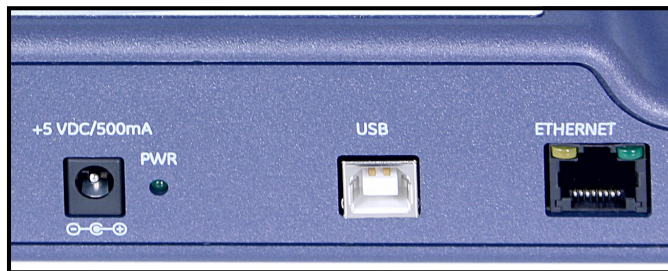

Figure 5: Base Station Connections
Starting the Base Station requires plugging in the power supply and establishing USB or Ethernet connections. The rear of the Base Station appears similar to Figure 5 below.
- To power the Base Station, insert the round barrel connector into the power input jack of the Base Station (the input at the left shown in Figure 5 on the previous page). Attach the power supply to the power cord. Then insert the power cord into a standard 100-240 VAC outlet. A green light next to the power outlet on the Base Station indicates that the station is powered up.
- To establish a USB connection, plug one end of the USB cable into the USB outlet in the center of the rear shown in Figure 5 on the previous page, and plug the other end into the USB port of your computer.
- To establish an Ethernet connection, plug one end of your Ethernet cable into the outlet at the right of the rear panel shown in Figure 5 on the previous page. Then plug the other end into your Ethernet connection.